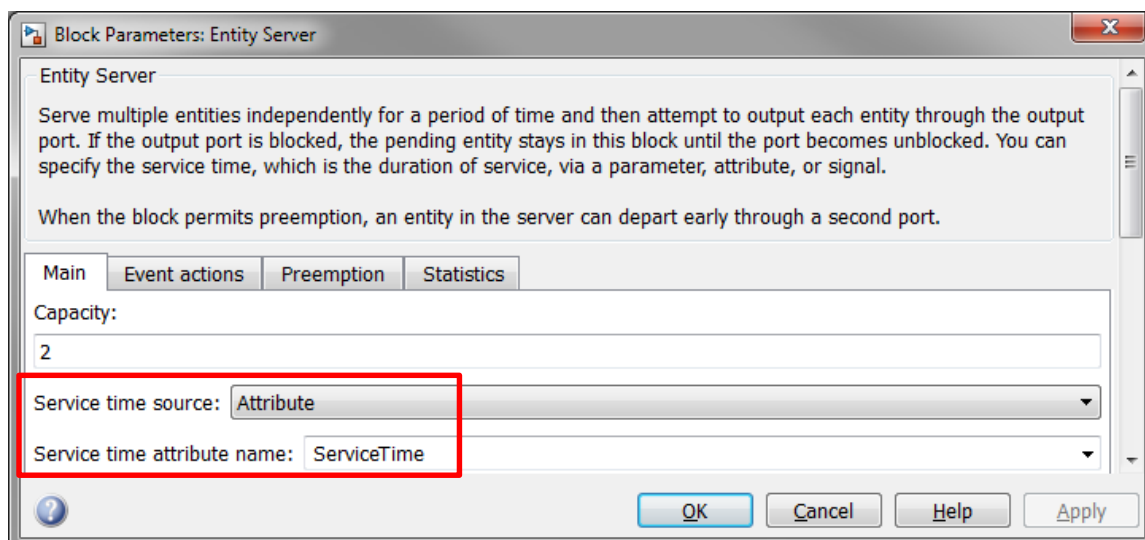

Figure 13: Setup the server block to use an attribute for service time
4. Since we are defining the service time as an attribute, we now need to let the Entity Server block know to use this attribute. Double click on the Entity Server block, make the changes as shown in Figure 13